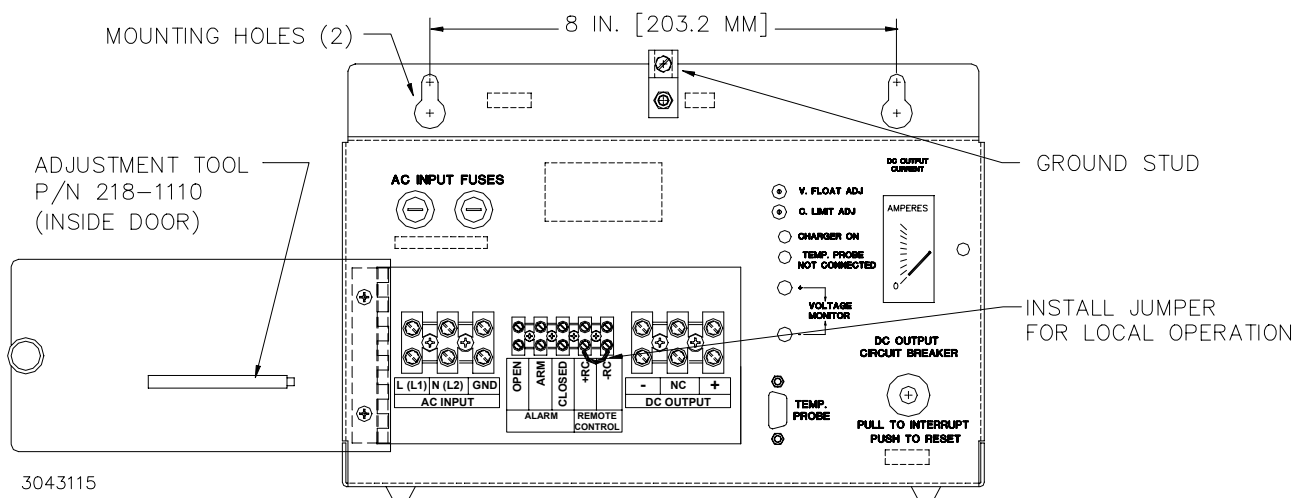

FIGURE 1. KES 12 VOLT ENGINE START BATTERY CHARGER, FRONT VIEW
- **Adjustable Float Voltage** - The float voltage is adjustable over a wide range (see Table 1 for adjustment range and factory setting). Adjust the output voltage from the front panel using the tool on the back of the front panel door (see Figure 1) to adjust the V. FLOAT ADJ potentiometer while monitoring the + and – VOLTAGE MONITOR test points with a precision digital voltmeter.
- **Adjustable Current Limit** - The current limit is adjustable over a wide range (see Table 1 for adjustment range and factory setting). Adjust from the front panel using the C. LIMIT ADJ potentiometer using the tool on the back of the front panel door (see Figure 1).
3. Connect the local ground connection to the ground stud (see Figure 1) using the 10-32 x 3/8 ACF Brass Hex nut provided (Kepco P/N 102-0007)
Two slotted holes, 8 inches apart, are provided on the upper rear chassis (See Figure 1) to wall mount the unit. The unit also has four feet for bench top operation. The unit has forced air cooling from a single fan located within the integral RKW power supply as well as ventilation holes in the chassis which must be kept clear from obstructions to ensure proper air circulation. Enough space must be provided around the chassis to allow the hot air to exhaust from the components inside the chassis.
3. Connect the local ground wire to the ground stud (see Figure 1) using the 10-32 x 3/8 ACF Brass Hex nut provided (Kepco P/N 102-0007)